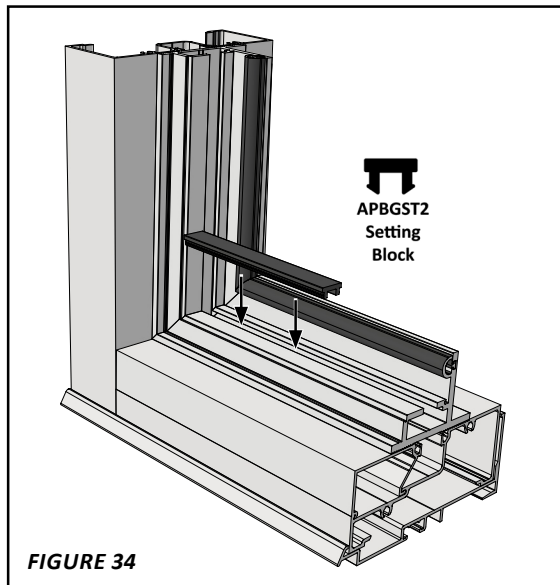
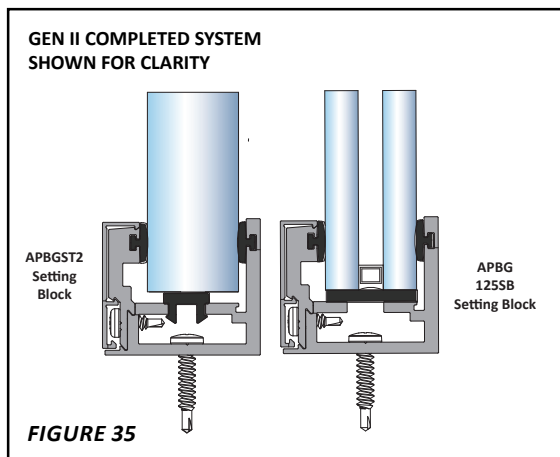

FIGURE 34
FIGURE 35
(2) APBGST2 Setting Blocks will be used for all monolithic and laminated security panels. They should be cut to 4" in length and placed into the Gen II web slot at quarter points. **(Fig.34)** and **(Fig.35)**
Two flat APBG125SB setting blocks are required for all IG panels providing wider support and preventing movement of the butyl components, also cut to 4" lengths and placed at quarter points per window bay. **(Fig.35)**